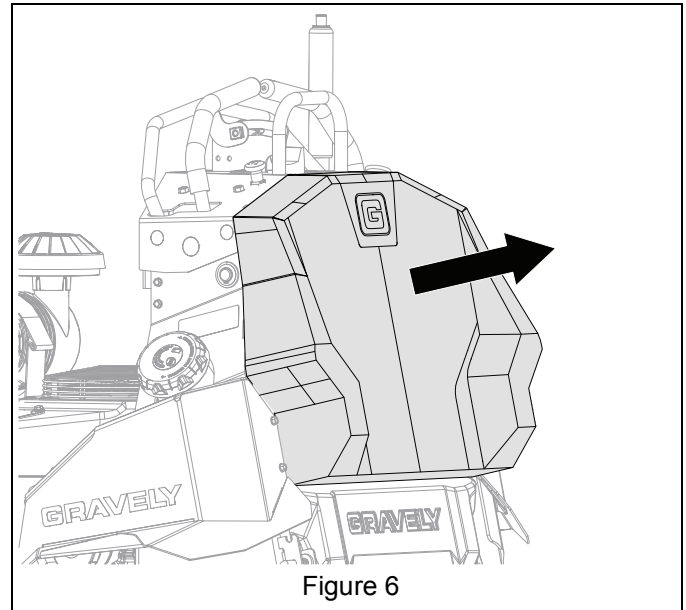

Figure 6
- Remove and retain operator pad. See Figure 6.